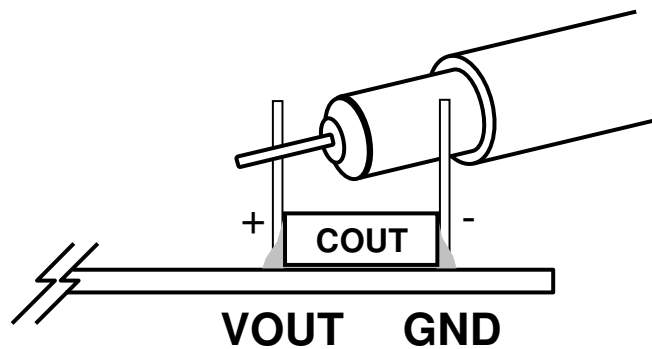

Figure 2. Measuring Output Voltage Ripple
**NOTE:** When measuring the output or input voltage ripple, care must be taken to avoid a long ground lead on the oscilloscope probe. See Figure 2 for the proper scope probe technique. Short, stiff leads need to be soldered to the (+) and (-) terminals of an output capacitor. The probe's ground ring needs to touch the (-) lead and the probe tip needs to touch the (+) lead.